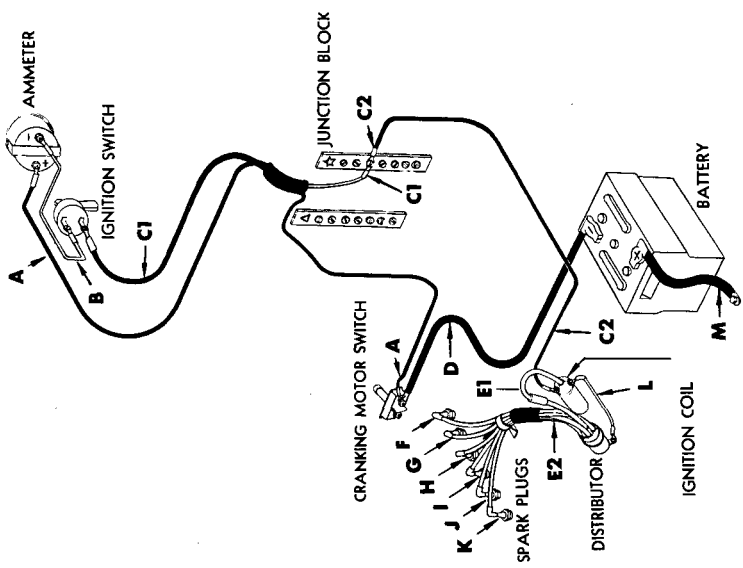

Figure 64—Ignition Wiring Diagram
a. Description. The low- and high-tension ignition wiring system (fig. 64) carries the primary low-tension electrical energy from the battery, through the ammeter, ignition switch, coil primary, and distributor; and as high-tension energy from the coil secondary through the distributor to the spark plugs, where the spark, jumping the plug gap, causes fuel to explode in the combustion chambers. Connecting wires from the battery to ammeter and ignition switch to primary coil terminal are part of the chassis front end wiring harness. Connecting wires from the ammeter to ignition switch, primary coil to distributor, high-tension secondary coil to distributor, and distributor to spark plugs, are separate wires. The six spark plug wires are supported as a group in an insulating conduit and held by suitable spool grommets and clips. Within the conduit the six spark plug wires are grouped around a central core wire, consisting of a tightly coiled steel spring, which extends the length of the conduit, the upper end of the core spring being grounded to the supporting metal clip, the lower end being free of metal contact. This central wire-coiled core acts to isolate and confine the individual spark impulses to their respective cables, and avoids impulse transfer from cable to cable, which would cause preignition in an "out-of-time" spark plug, a phenomena commonly known as "ignition bump." It is important that this center core be in position and properly grounded at all times for correct functioning of the ignition system.